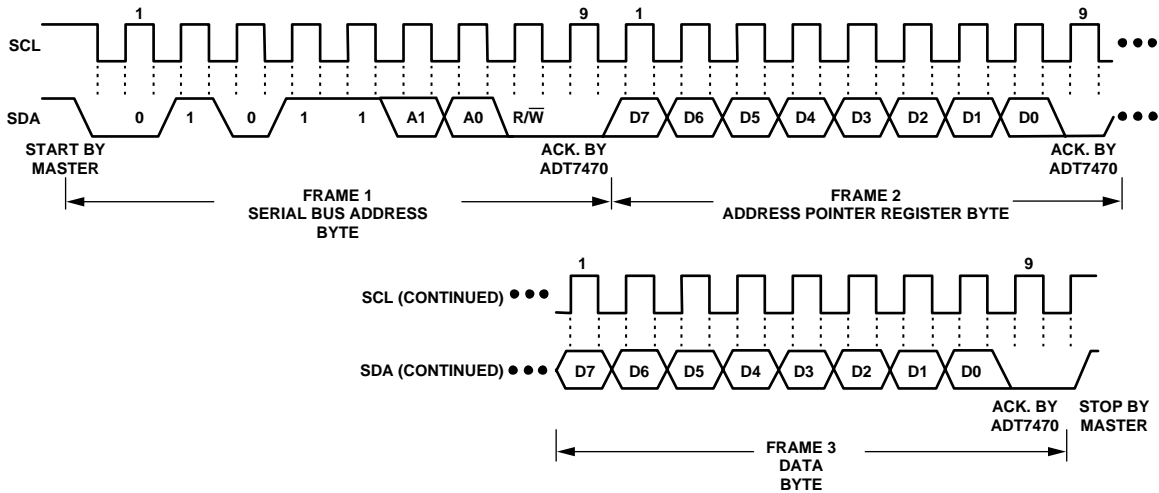
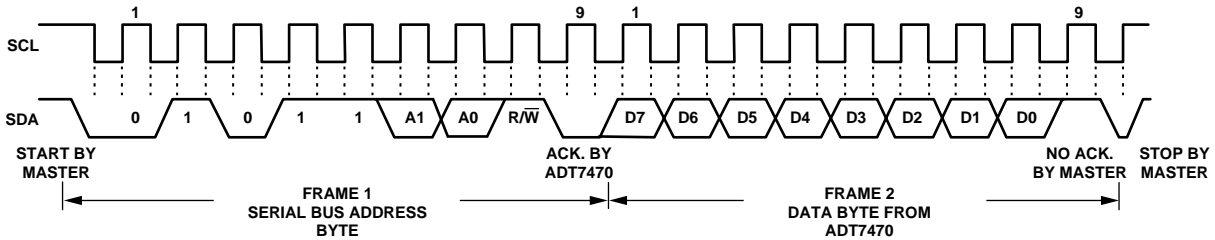

Figure 7. Writing a Register Address to the Address Pointer Register, then Writing Data to the Selected Register
Figure 9. Reading Data from a Previously Selected Register
This is illustrated in Figure 7. The device address is sent over the bus followed by R/W set to 0. This is followed by two data bytes.
A read operation is then performed consisting of the serial bus address, R/ \overline{W} bit set to 1, followed by the data byte read from the data register. This is shown in Figure 9.
- In Figure 7 to Figure 9, the serial bus address is shown as the default value 01011(A1)(A0), where A1 and A0 are set by the address select mode function previously defined.